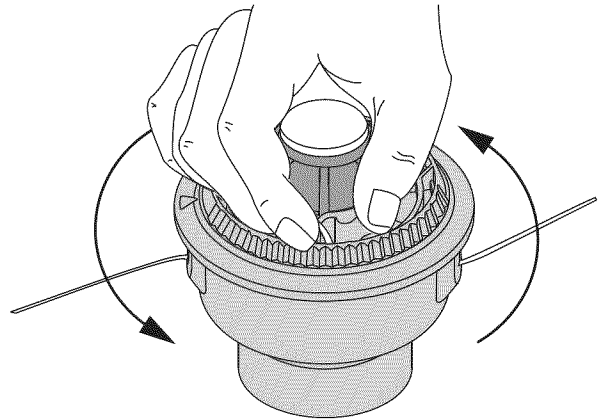

Fig. 15
8. Hold the outer spool. Wind the inner reel counterclockwise until approximately four (4) inches (102 mm) of line remain (Fig. 15). Avoid contact of bump knob while winding. Ensure bump knob is tight on shaft before proceeding, turn bump knob clockwise to tighten.